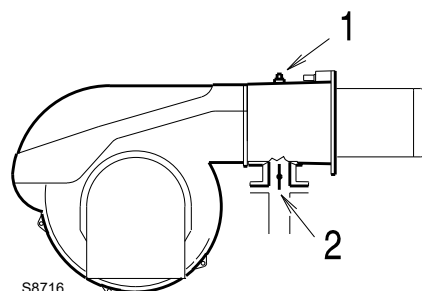

Fig. 25
Gas pressure measured at the test point 1)(Fig. 25), with:
Pressure loss at gas butterfly valve 2)(Fig. 25) with maximum opening: 90°.
- Subtract the combustion chamber pressure from the gas pressure measured at test point 1)(Fig. 25).
To know the required gas pressure at test point 1)(Fig. 25), set the maximum output required from the burner operation, then:
- Read, on the right (column 1) the socket pressure 1)(Fig. 25).
pressure required at test point 1)(Fig. 25).